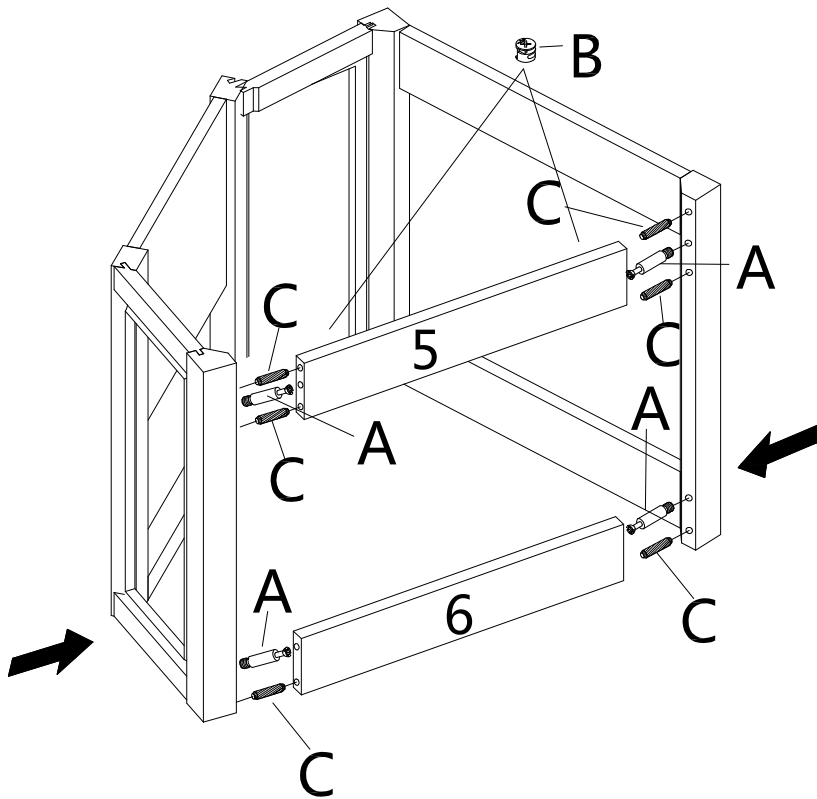

Figure 5
Attach Handle **(F)** to pre-assembled unit from Figure 5 with Small Bolts **(G)**.
Attach pre-assembled unit from Figure 5 to Bottom Panel **(8)**.
Connect pre-assembled unit from Figure 5 to Bottom Panel (8) with Bolts (J) and Washers (L/M).